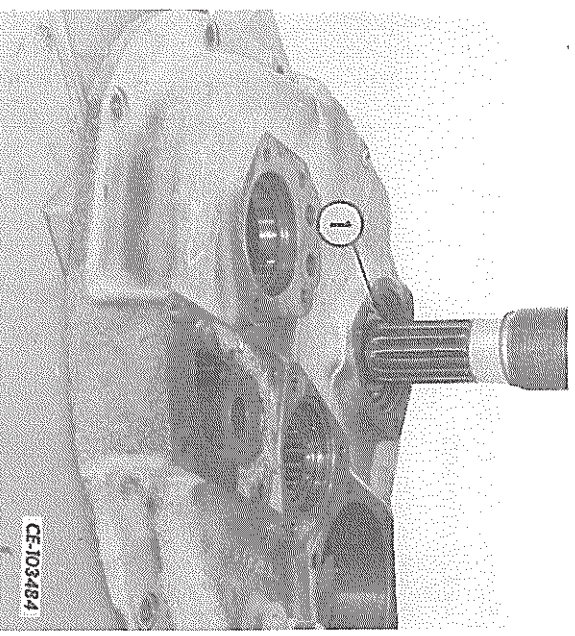

FIG. 34 — Removing the Forward Clutch Shaft Assembly
23. Support the forward clutch shaft and cover assembly in a press under the reverse drive gear (large gear on the end of the shaft). Remove the snap ring securing the shaft to the ball bearing (1, Fig. 34) and press the shaft from the bearing. The reverse drive gear will be partially pressed off as the shaft is freed from the bearing. If bearing replacement is necessary, reverse the cover in the press and press the bearing out the front of the cover.